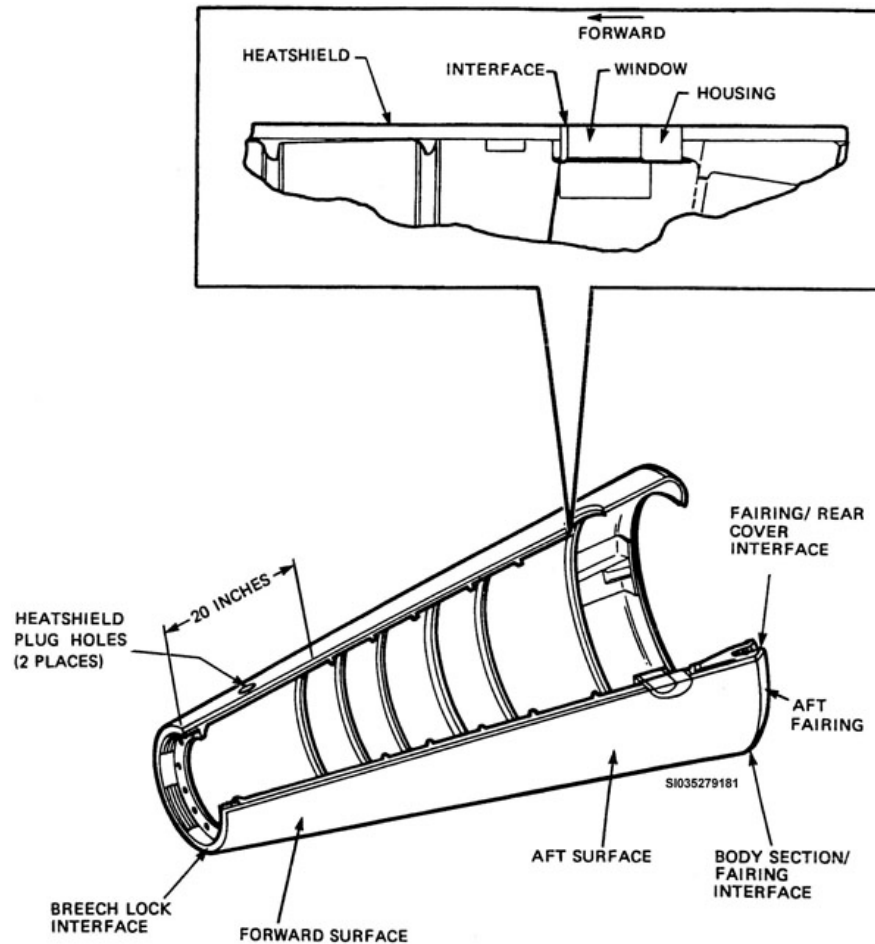

Figure 1-14. Body section heat shield inspection.
4. Heat shield plugholes on the body section for damage to the threads (fig. 1-14). If less than two full normal threads remain, reject the weapon. For other types of damage, perform a check of thread function by installing heat shield plugs. If plugs seat properly, no action is required. If plugs do not seat properly, reject the weapon.